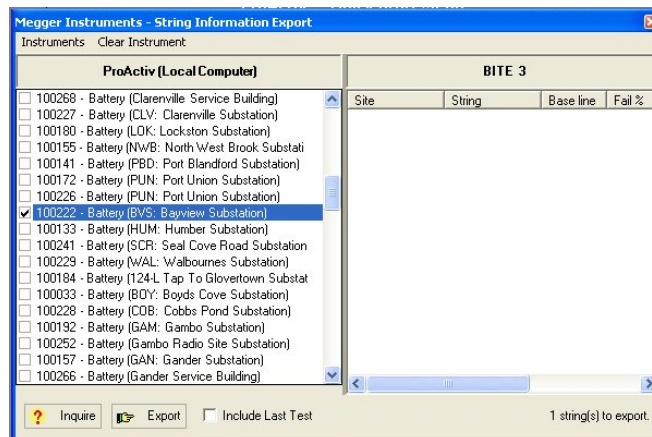

Figure 3 - Export Data
- 1-4. Choose the proper string to upload to the BITE3, making sure the **“Include Last Test”** checkbox is clear, and click **“Export”**, refer to Figure 3.